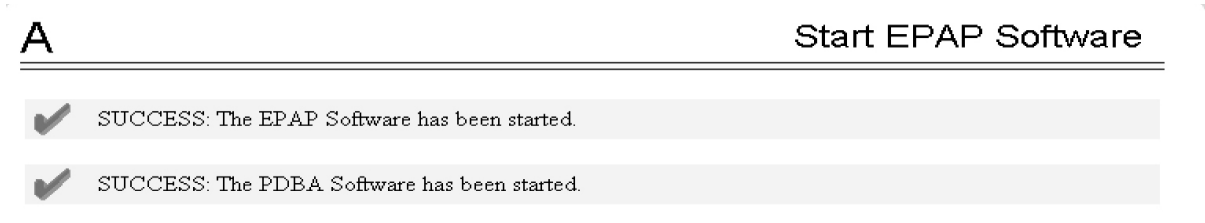

Figure 58: Start Software Completion Screen
8. Click the **Start EPAP Software** button to start the software. The screen shown in Figure 58: Start Software Completion Screen confirms that the software has started (the PDBA item appears only if performing this procedure on Side A):